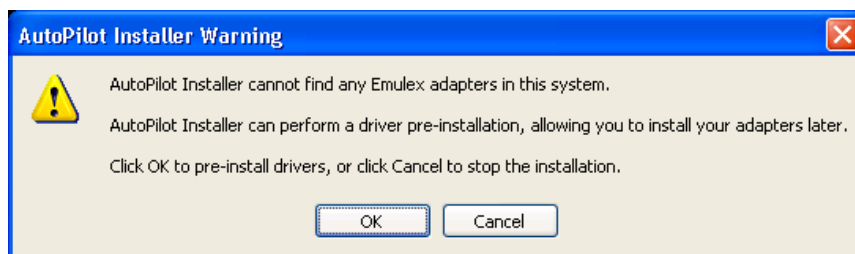

Figure 2-1 AutoPilot Installer Warning (Software-First Installation)
1. Run AutoPilot Installer using one of the two options listed in “Running a Software Installation Interactively” on page 19. The warning in Figure 2-1 appears: